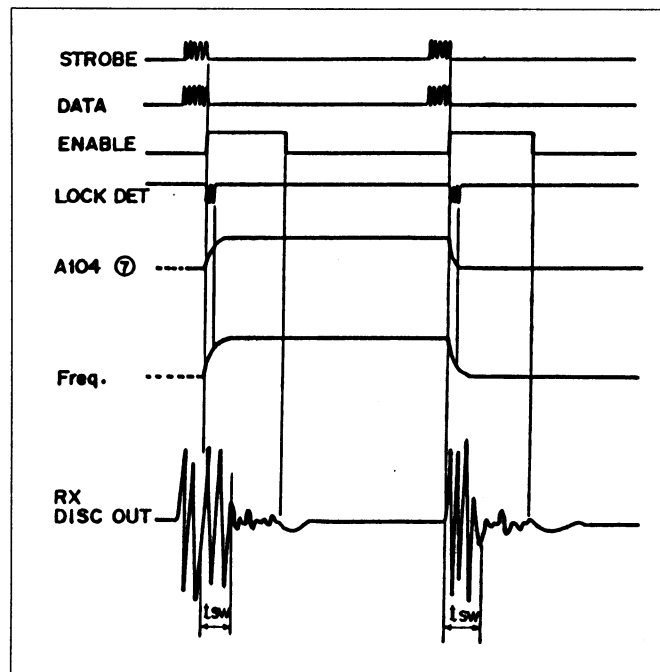

FIGURE 5 - LOGIC FORMAT
- b. The channel switching sequence and the action of the related functions are shown in Figure 5.